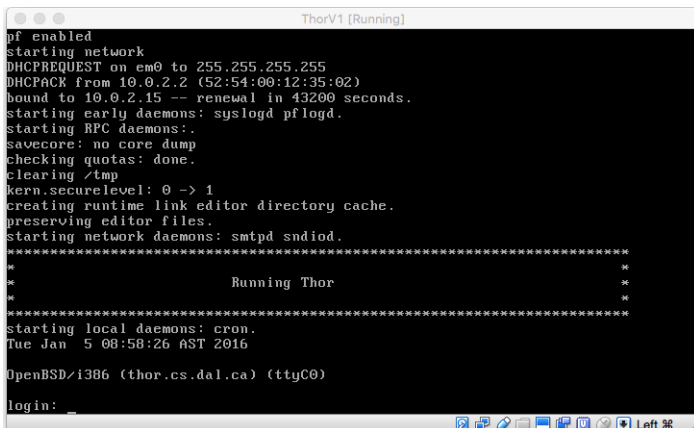

Figure 12: The *Thor* server is ready to go.
- (b) Double click on *ThorV?* in the left panel, or select it, and then click on *Start* in the top menu. You will see a window come up and text scroll by (see Figure 12). Once you see the message “Starting Thor server” the server is running.